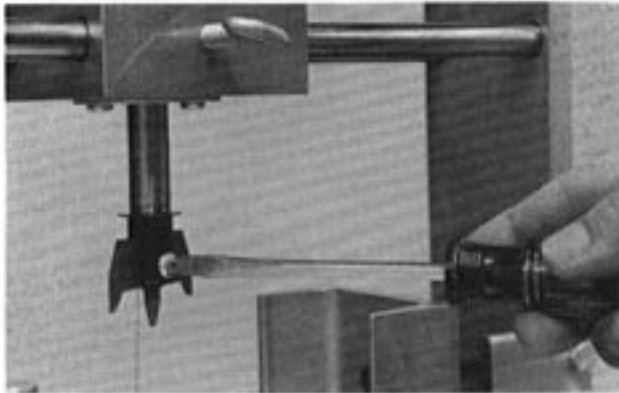

FIGURE 6 - TIGHTENING RETAINING SCREW
- 5.02 Slide blade into slot in lower end of vertical shaft, and tighten retaining screw (Figure 6).